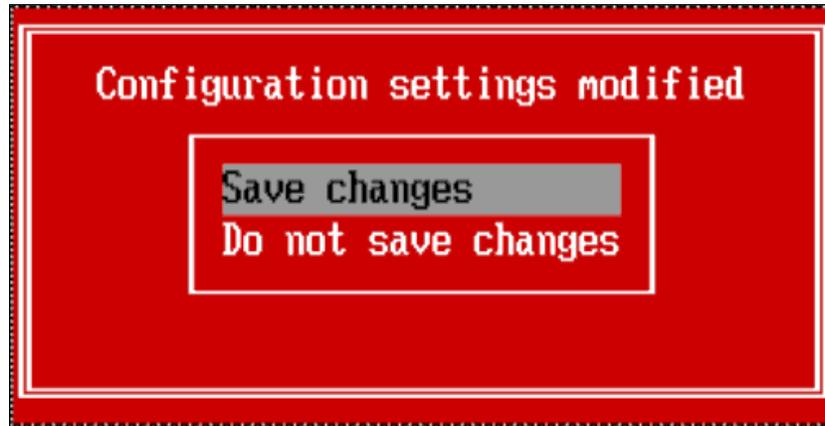

Figure 10-31 Saving the configuration settings
11. Press Esc to return to the previous screen. Press Esc again and you are prompted to save the configuration settings, as shown in Figure 10-31. Select **Save changes** and press Enter.